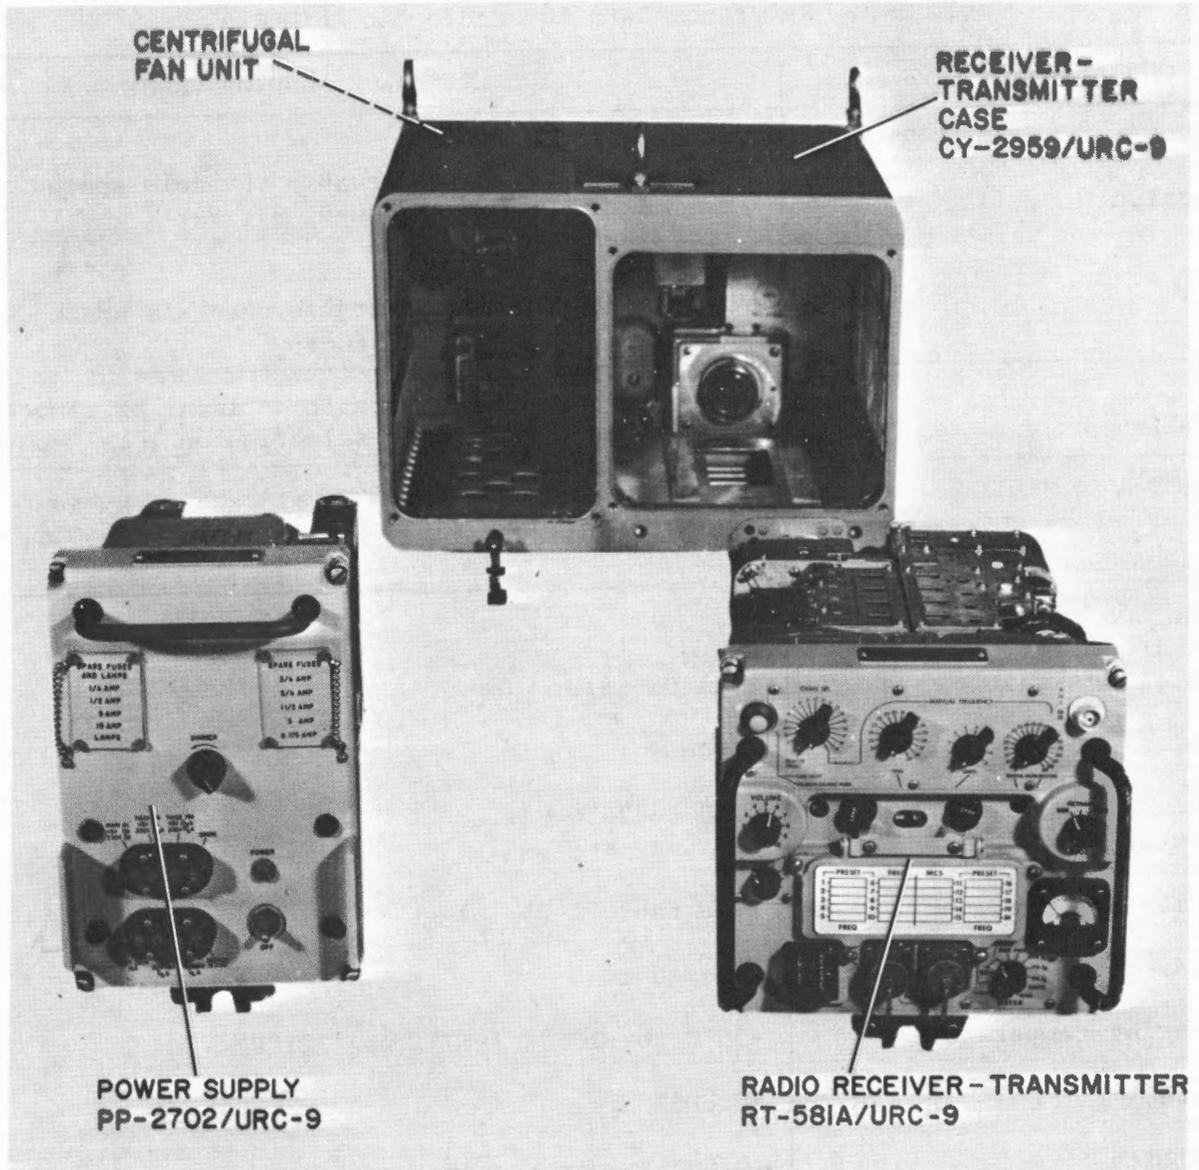

Figure 1-2. Units of Radio Set AN/URC-9(), Typical
1-4. Radio Set AN/URC-9 (figure 1-2) is a transceiver designed for shipboard or fixed-station operation. The radio set provides transmission and reception of amplitude modulation (AM) voice and tone modulation (on MCW keying) on any of 3500 channels (AN/URC-9A) or 1750 channels (AN/URC-9, 9Y and 9AY). Nineteen of the channels can be preset for automatic frequency selection. Complete control of the radio set, including selection of the preset channels, can be exercised locally or from a remote control point. In addition, circuits are incorporated in the radio set to permit the connection of two AN/URC-9 equipments for two-way automatic retransmission. Broadband transmit and receive operation is also selectable from the transceiver.